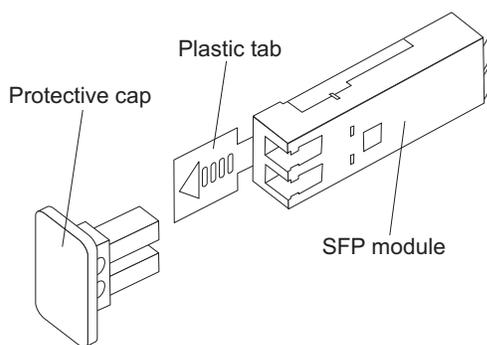

Figure 23. SFP module and protective cap
2. Remove the protective cap from the SFP module, as shown in Figure 23. Save the protective cap for future use.
2. If necessary, remove the protective cap from the SFP module, as shown in Figure 23 on page 38. Save the protective cap for future use.